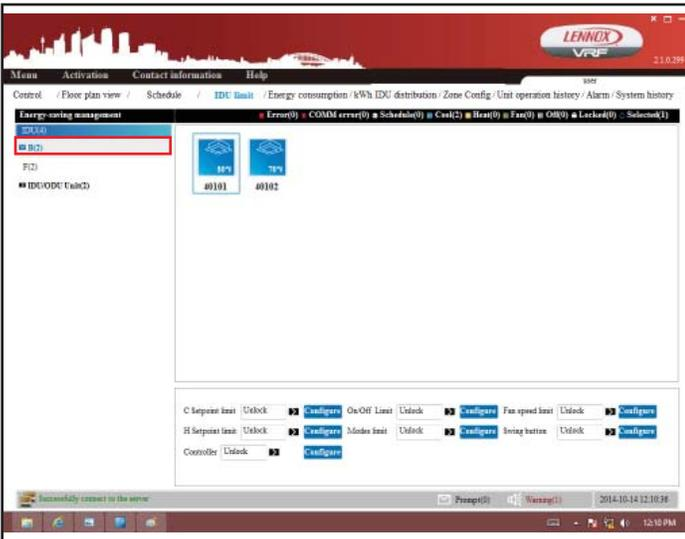

Figure 37. Set Indoor Unit Limits
2. Tap the zone in the Zone panel, left side of screen, that contains the indoor units you want to limit. **NOTE** - Limits are applied to the local controller rather than directly to the indoor unit. See figure 37.